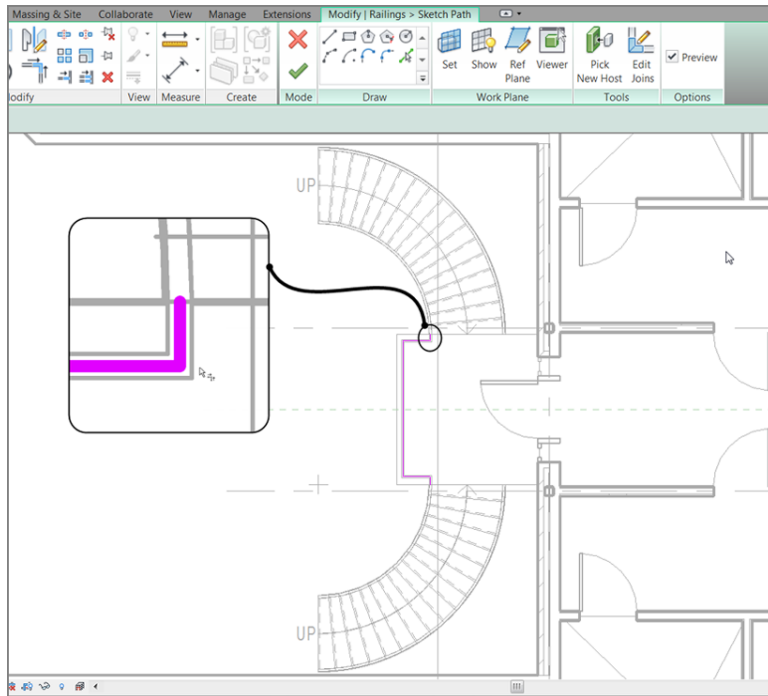

FIGURE 10.51: Connecting the landing railing to the stair railing
6. After the offsets are complete, click the Line icon on the Draw panel, as shown in Figure 10.51. Set Offset to 0.
7. Draw the lines extending from the midpoint snap of the stair railing to the landing railing (see Figure 10.51).
8. Trim the corners so your railings look like Figure 10.51.